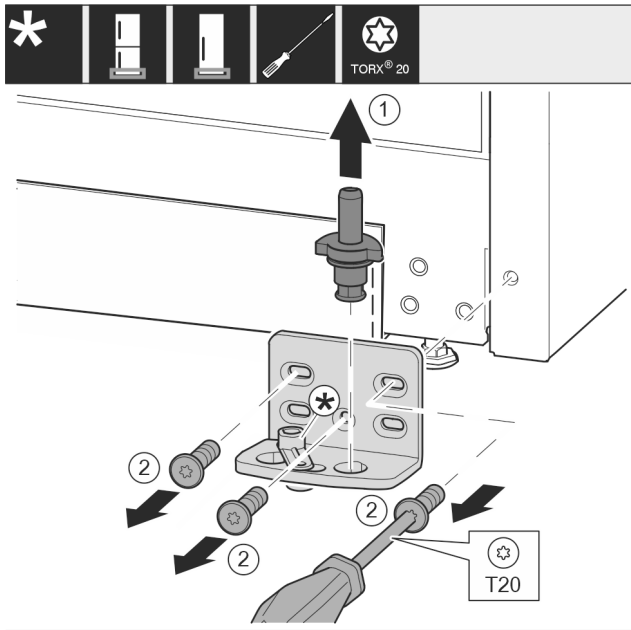

Fig. 17
- Pull the bearing bolt Fig. 17 (1) out upwards completely.
- Use screwdriver to unscrew the screws Fig. 17 (2) and remove the swap bearing block.